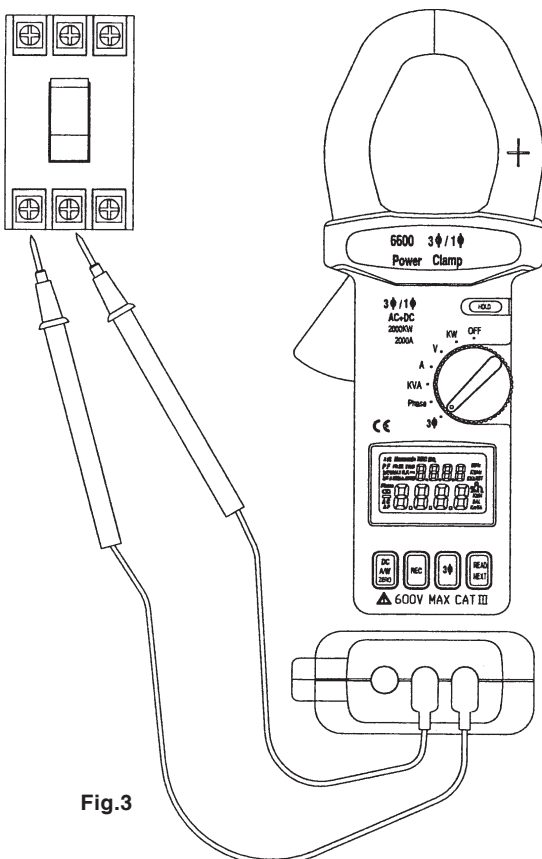

Fig.3
- a. Set the rotary switch at V (refer to figure 3).